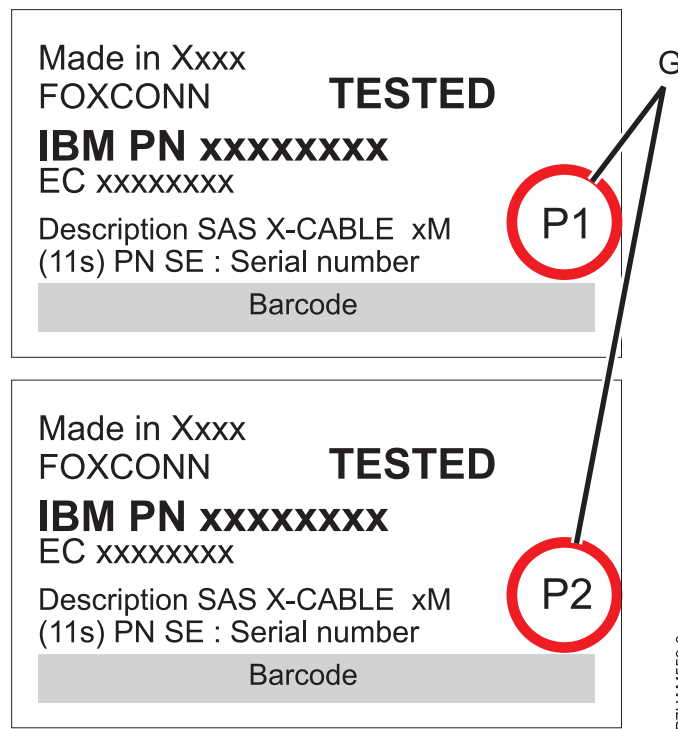

Figure 44. Labels for SAS adapter cables showing P1 and P2 identifiers
- The cable that plugs into independent SAS adapter 1 (C) contains a label with the P1 identifier (G), as shown in Figure 44 on page 84. This adapter does not have access to any other independent adapter and has access only to drive bays D1 - D6.
- The cable that plugs into independent SAS adapter 2 (D) contains a label with the P2 identifier (G), as shown in Figure 44 on page 84. This adapter does not have access to any other independent adapter and has access only to drive bays D7 - D12.
- The cable that plugs into independent SAS adapter 3 (E) contains a label with the P1 identifier (G), as shown in Figure 44 on page 84. This adapter does not have access to any other independent adapter and has access only to drive bays D13 - D18.
- The cable that plugs into independent SAS adapter 4 (F) contains a label with the P2 identifier (G), as shown in Figure 44 on page 84. This adapter does not have access to any other independent adapter and has access only to drive bays D19 - D24.